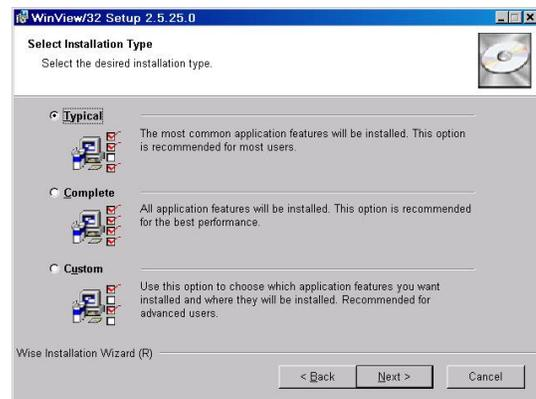

Figure 8. WinView Installation: Select Components dialog box
1. On the **Select Installation Type** dialog box (see Figure 8), click on **Typical** radio button to install the required drivers and the most commonly installed program files. Select the **Custom** radio button if you would like to choose among the available program files or do not want to install the drivers. **Complete** installs all of the application features.